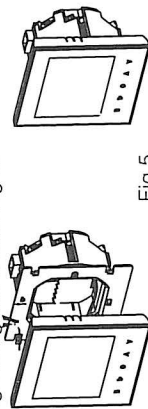

Fig 5
Step 5. Fasten body of thermostat and the mounting plate through the groove. See Fig 5.